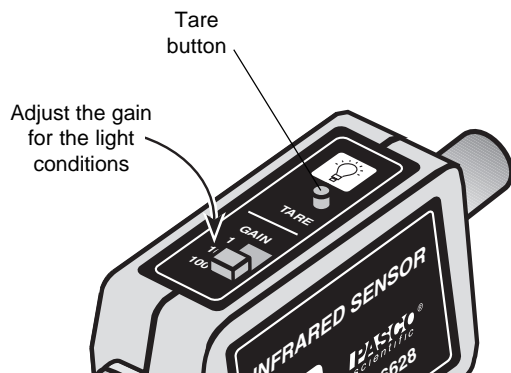

Figure 2
2. Select the appropriate gain setting on the sensor box for the light levels to be measured (Figure 2). The correct gain setting is the one for which the intensity levels on the display vary appropriately for measuring the relative light intensity changes in your experiment.